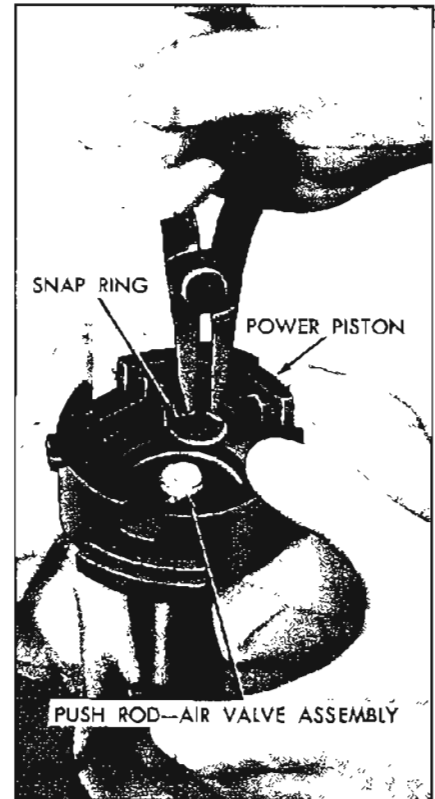

Figure 9-47—Removing Power Piston Snap Ring
9. Use Truarc Pliers #2, or KM J-4880, to remove the snap ring on the air valve. See Figure 9-47.